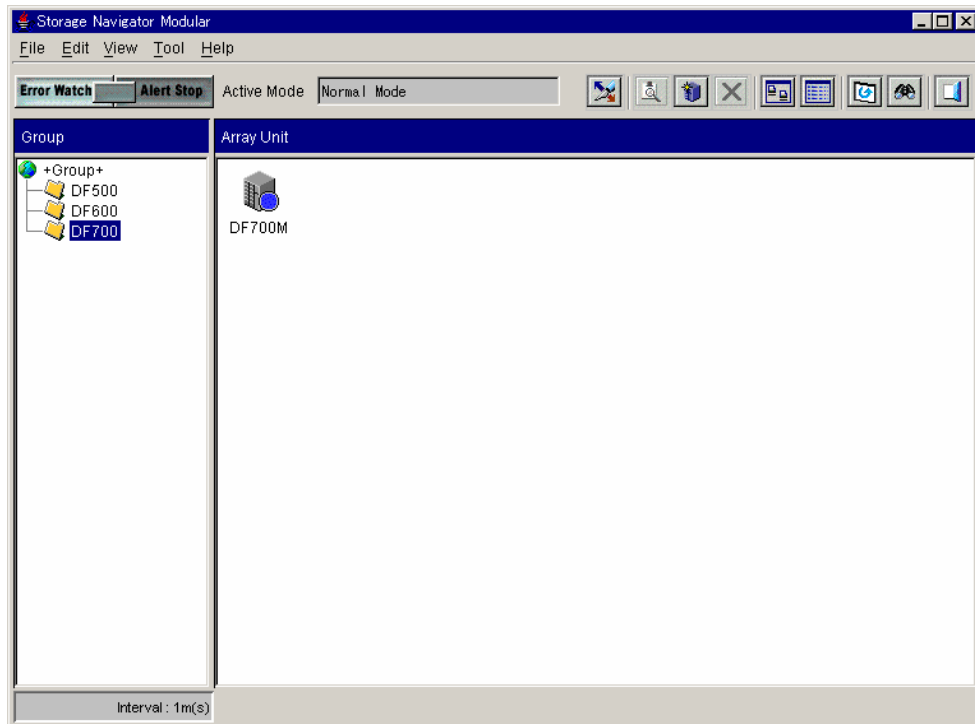

Figure 15.5 Checking the Status of Subsystem Components
- From the **View** menu, select **Refresh** (see Figure 15.5).